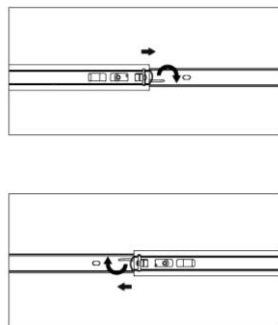

Fig. 1
3. Push up on the release lever on the right-hand drawer slide (#9) while pulling down on the other release lever (Fig. 1).